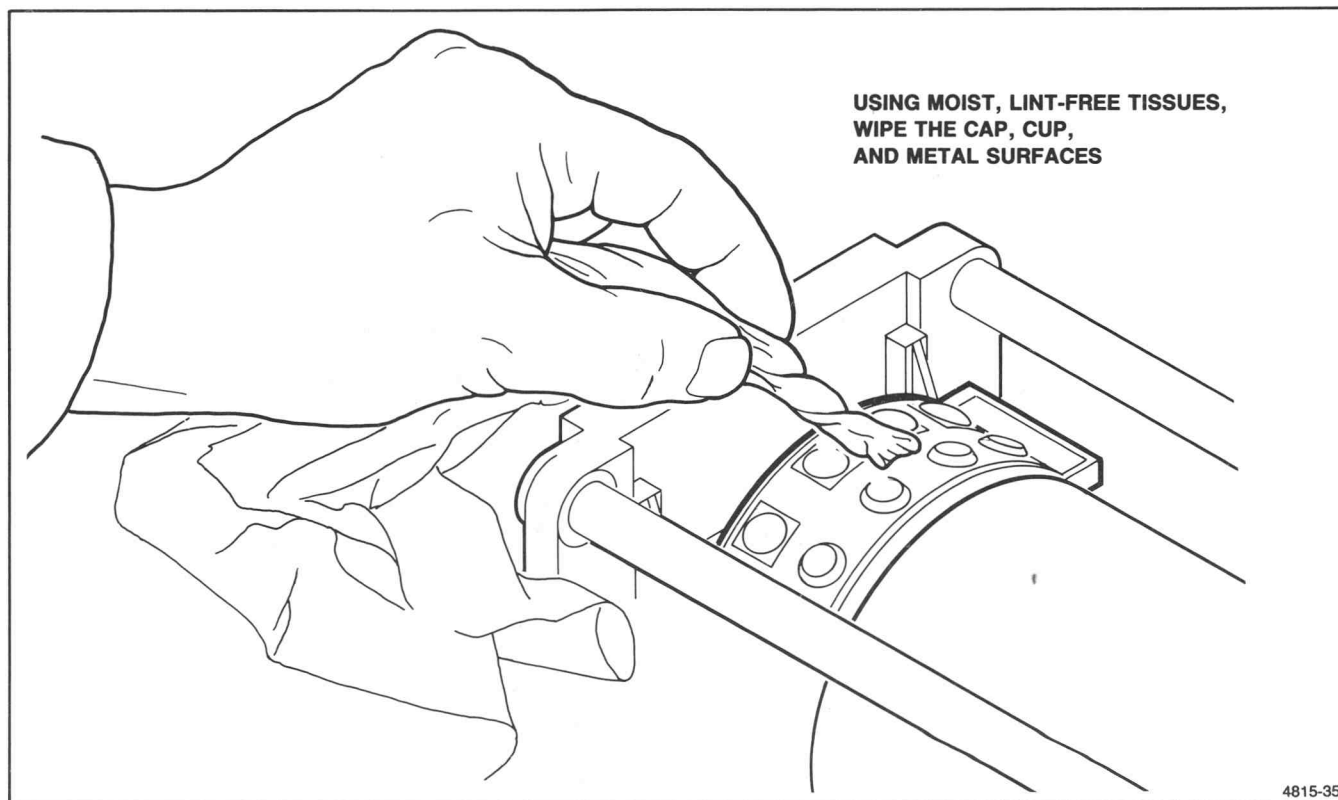

Figure 4-4. Cleaning the Head Maintenance Station.
Refer to Figure 4-4 to locate the head maintenance station. Perform the following procedure:
4. Clean the maintenance station gutter area (pointed out in Figure 4-4) with a moist lint-free cleaning paper (such as KIMWIPES®). Moisten and use a clean portion of the cleaning paper to: